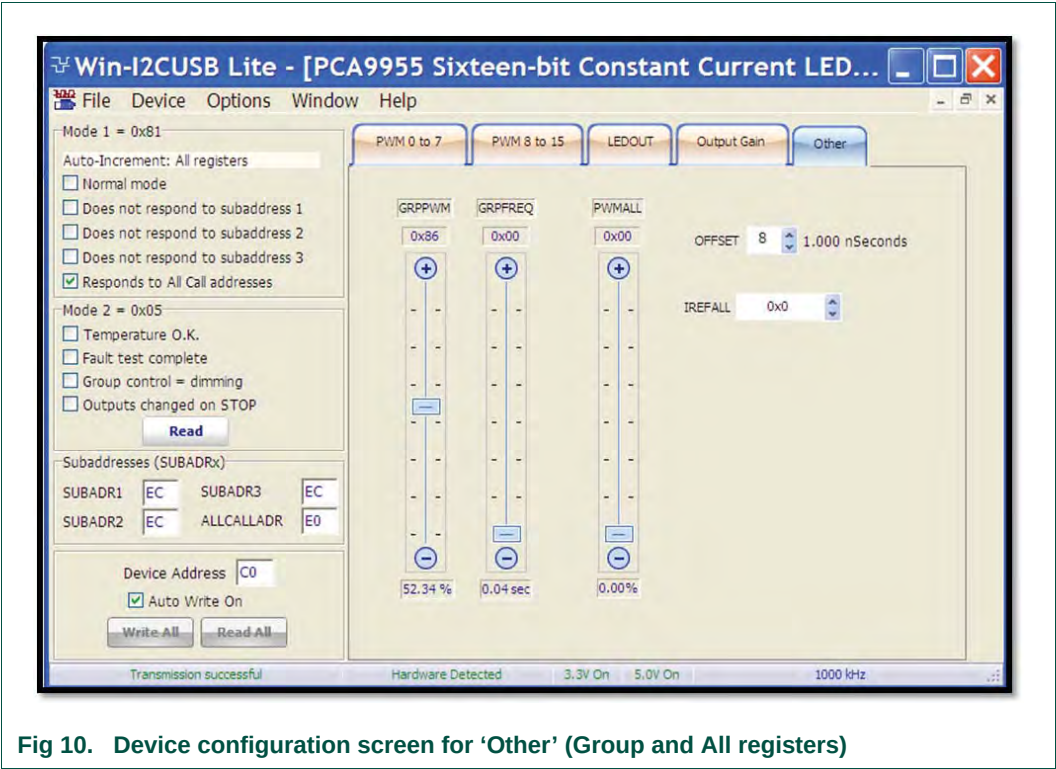

Fig 10. Device configuration screen for 'Other' (Group and All registers)
- ‘Other’ GRPPWM is group PWM for global brightness control, GRPFREQ is group frequency for global blinking control when group control = blinking in Mode 2 register, PWMALL is brightness control for all LED outputs, OFFSET is control LED output delay offset, IREFALL is control output current for all LEDs as shown in Figure 10.
- 7. Once you set a color on D3 RGB LED with the PWM[1:3] values, click the ‘Other’ configuration screen and move the GRPPWM bar for dimming effect (see Figure 10).